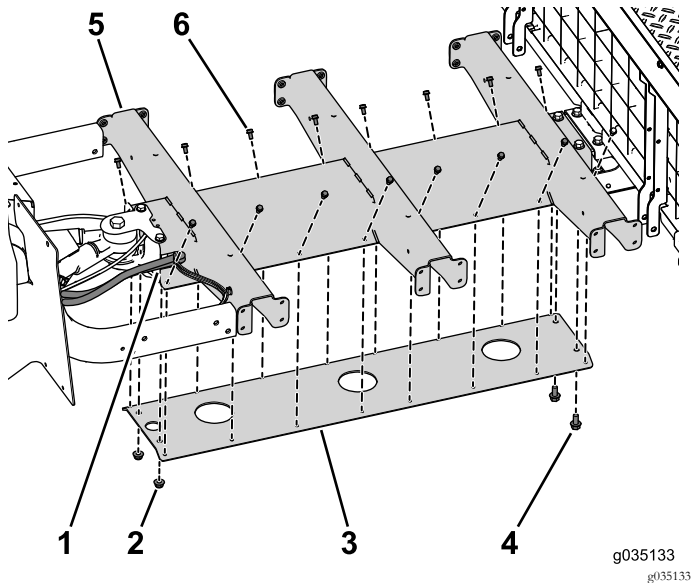

Figure 79
2. Loosely install the 2 bolts (3/8 x 3/4 inch), 16 bolts (1/4 x 1/2 inch), and 2 flange nuts (3/8 inch) to secure the bottom plate to the center channel (Figure 79).